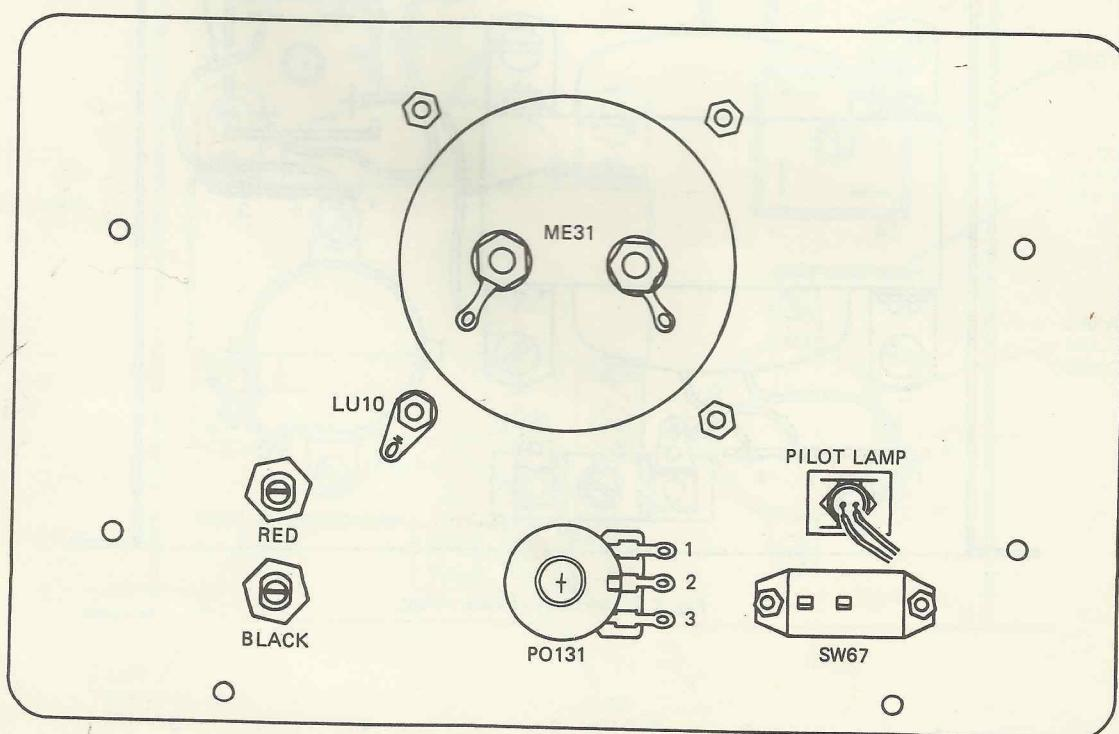

Fig. 3. Rear view of the front panel with the parts in place.
Figure 3 shows the parts installed on the front panel (PA61), looking at the rear of the panel.
(1) Insert the red jack through the hole in the front of the panel marked with the plus (+) sign, and secure it by threading the nut provided on the back of the panel. Tighten the nut securely
(2) Insert the black jack through the hole in the front of the panel marked with the minus (-) sign, and secure it by threading the nut provided on the back of the panel. Tighten it securely
(3) Place the control lockwasher over the bushing of the 10k-ohm control. Insert the 10k-ohm potentiometer through the back of the panel in the 3/8" hole in the lower center of the panel. Place a flat washer and a control nut over the bushing. Position the terminals on the potentiometer as shown in Fig. 3, and then tighten the nut to hold the potentiometer
(4) Locate two 3/8" X 6-32 black Phillips head screws and insert them through the holes adjacent to the words OFF and ON on the front of the panel. Hold the screws in place and turn the panel over. Then put the on-off switch into place over the screws. Notice that the two terminals on the on-off switch are toward the center of the panel. Now put a lockwasher on each screw and then a 6-32 hex nut and tighten securely.. .()
(5) Insert the leads on the pilot light assembly through the hole beneath the word POWER on the front of the panel and then push the light assembly firmly up against the front panel. Slide the spring clip over the leads and over the barrel of the light until it is pressed firmly against the rear of the panel. If the pilot light is not held firmly in place, it is because you haven't pushed the clip against the back of the panel firmly enough
(6) Mount the meter on the front of the panel. The barrel goes through the large hole and the four mounting screws through the four small holes. Slip a solder lug over the lower left mounting screw and position it as shown in Fig. 3. Place